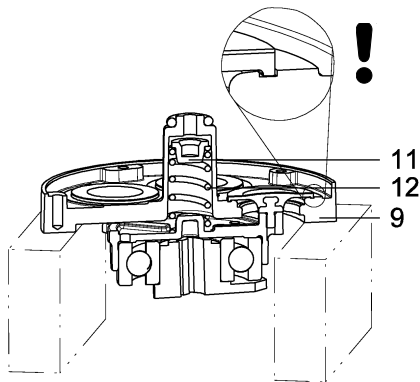

Fig. 6:
1. Screw diaphragms (8) by hand into the diaphragm holder (10) and tighten.
2. As shown in Fig. 6, place diaphragm receiver (9) on a suitable surface.